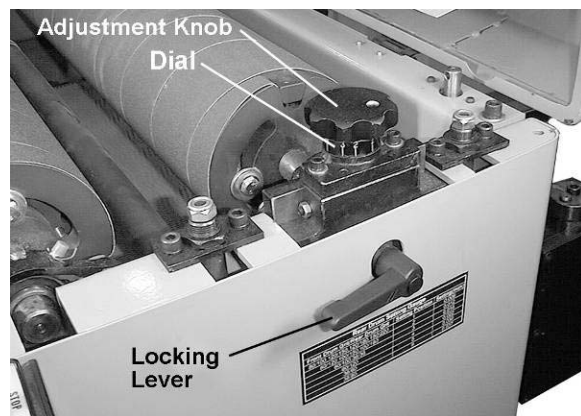

Figure 13
1. Loosen the locking levers (Fig. 13) on both sides of the machine by rotating them counter-clockwise.
4. Tighten the locking levers (Fig. 13) by rotating clockwise, before operating the sander.